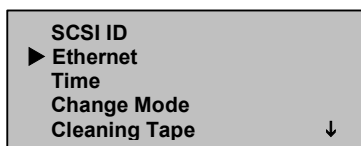

Figure 23: Select Ethernet
3. On the Configuration submenu, scroll to Ethernet. (See Figure 23.)